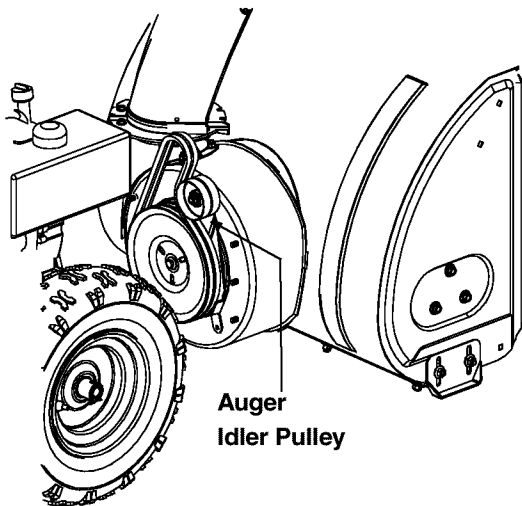

Figure 23
- To remove the front auger drive belt, push the idler pulley to the left. See Figure 23. The belt brake should move outward.